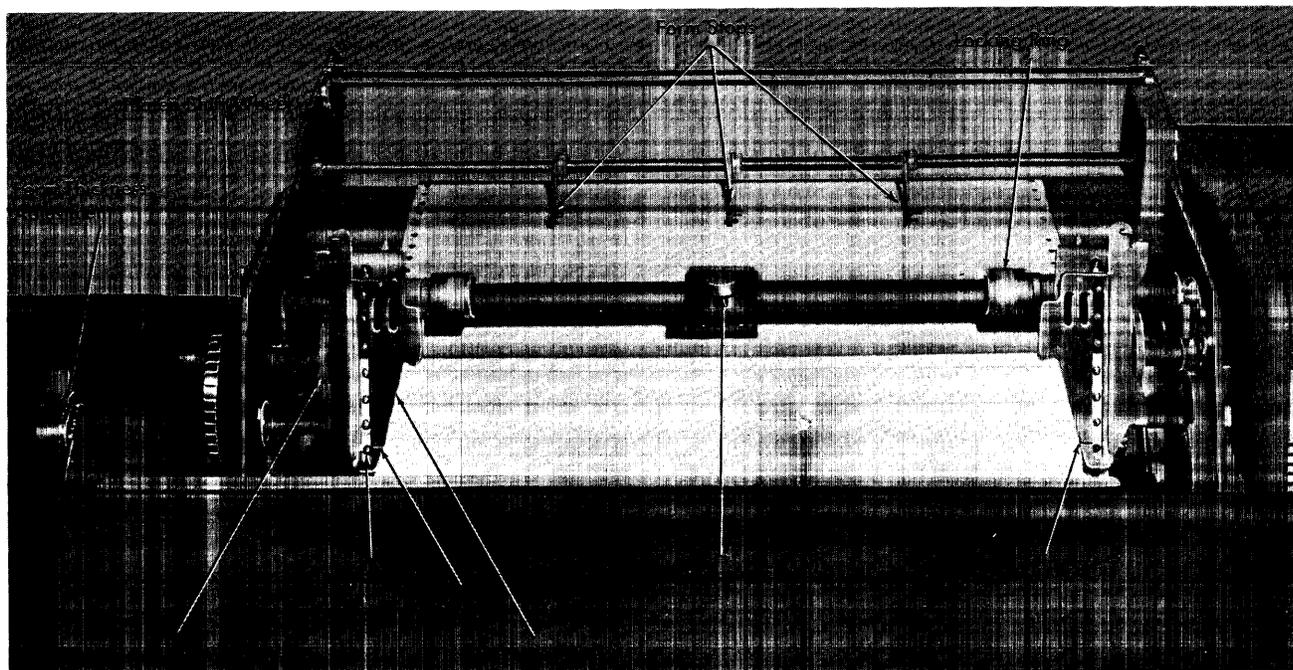

Figure 117. Carriage Ready to Operate
9. Insert the control tape, restore the carriage, and engage the platen clutch. Figure 117 shows the carriage ready to operate.